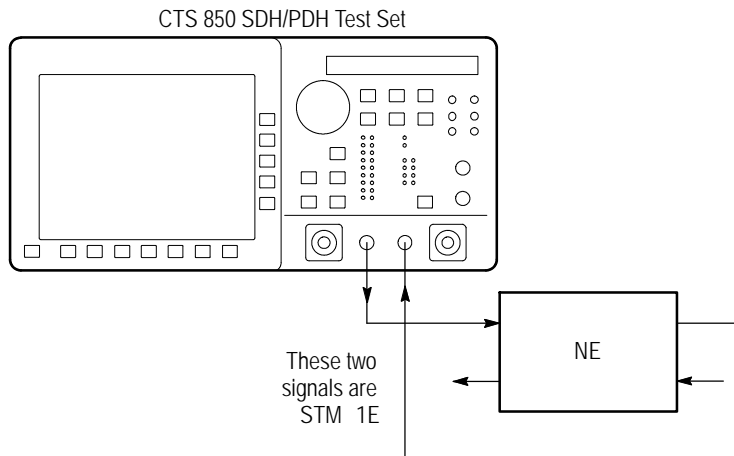

Figure 3 8: Setup to Check Onset-of-Errors Jitter Tolerance
1. Connect the CTS850 to the network element as shown in Figure 3 8.